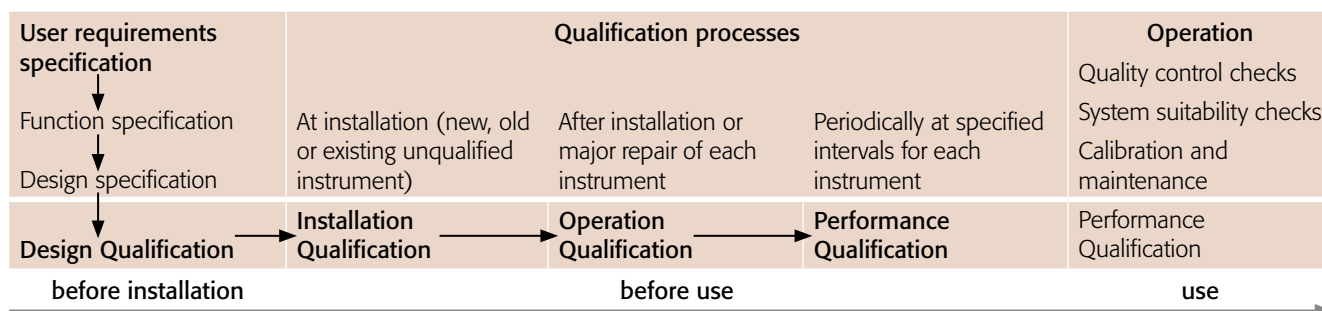

Figure 5. Timeline of analytical instrumentation qualification (AIQ).
Upon completion of the IQ/OQ phase the performance qualification (PQ) phase begins. This is where the instrument is qualified to ensure that it meets the requirements of the analysis being carried out in the laboratory. That is, running a CRM with certified wavelengths to prove that the instrument's wavelength is sufficiently accurate for the analysis that will be conducted. The benefit of using a CRM is that it provides instant traceability to the laboratory (Figure 5).